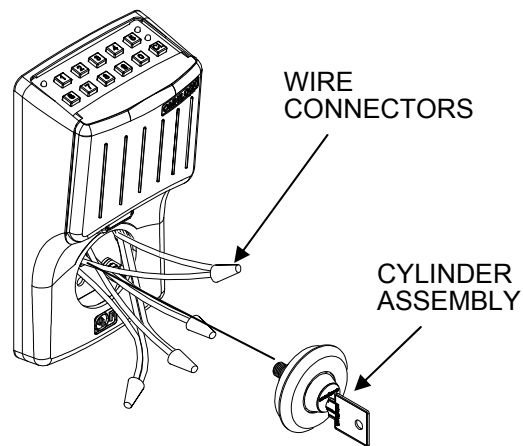

Figure 6 OMNILOCK Wall Mount System
- Step 1 Insert the key into the Cylinder Assembly and rotate it counter-clockwise until the Cylinder Assembly can be removed from the Module (Figure 6) .